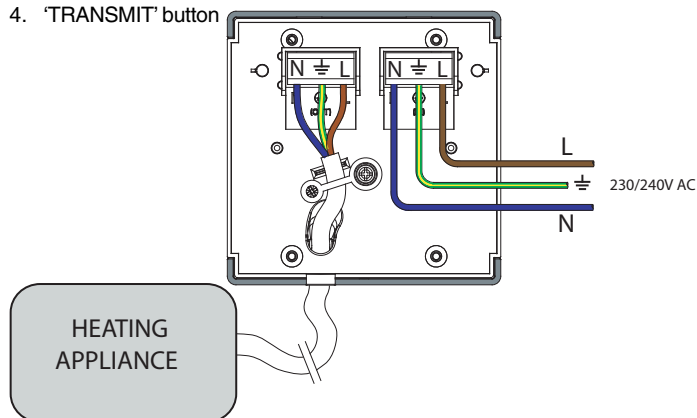

Fig. 5
- The cable of the heating appliance is fed through an opening on the underside of the Receiver unit - see **Fig. 5**.
- The cable from the heating appliance is then wired to the terminal block labelled (out). Please ensure the wires are connected in accordance with the marked terminals - see **Fig. 5**.
- Connect the fixed wiring of the premises (via a local isolation switch or RCD) from the backing box to the clearly marked terminals on the Receiver unit (see **Fig. 5**). Please ensure that the unit is earthed to the backing box.
Receiver Wiring - see Fig. 5